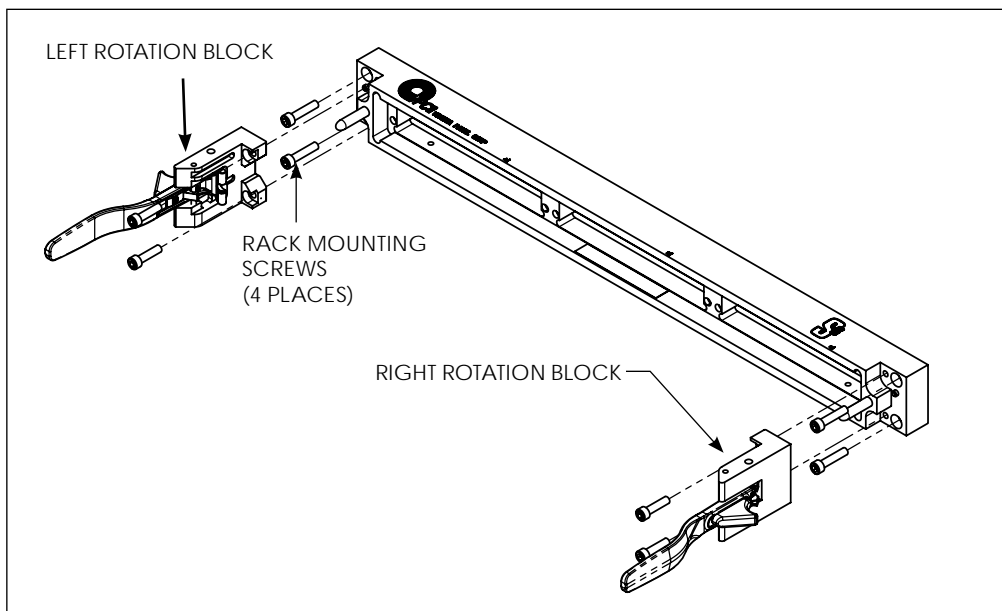

Figure 11-A. If the rails in your rack are not tapped you will need to purchase #10-32 cage nuts.
1. Remove the four #10-32 screws and then remove the rotation blocks. See **Figure 11-A**.